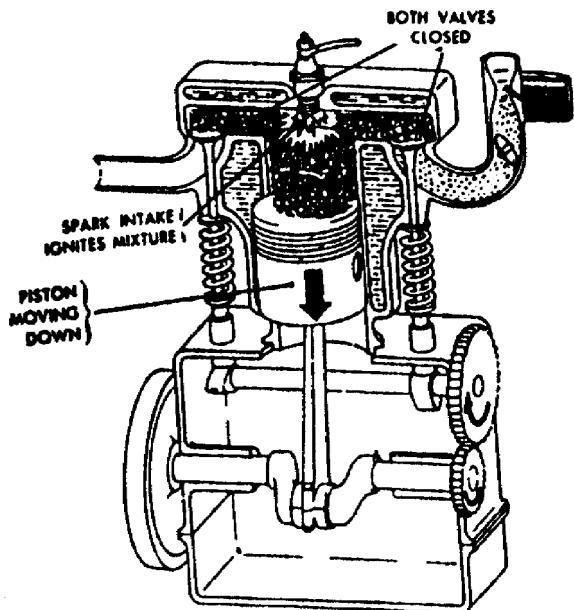

Figure 1-9. Power Stroke.
c. Power stroke. At the upper limit of piston movement (near top dead center), the compressed air-fuel mixture is ignited. The ignition system produces a spark in the cylinder causing the mixture to burn. The generated pressure forces the piston downward on the power stroke (Figure 1-9).